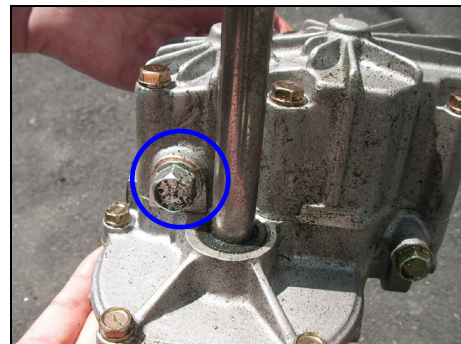
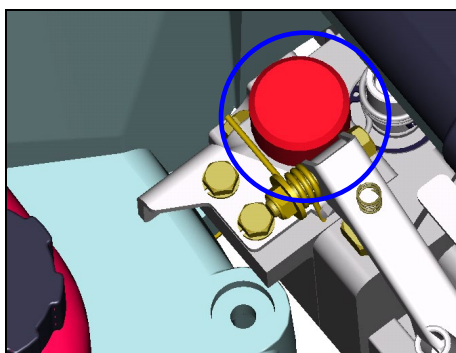
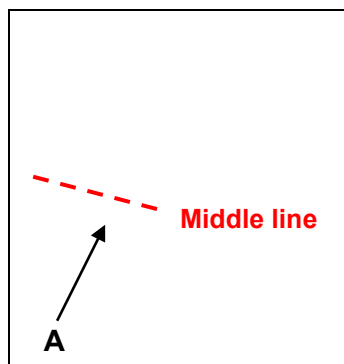

Fig. 21
Fig. 22
Fig. 23
3. Secondly, replace the HST oil. Drain the bolt(fig. 21) and set the drain plug completely. Loose the Red plastic cap(fig. 22), pour the HST oil "VG46" or "SAE 10W30" 0.22 liters, and then set the red cap completely. If HST oil is lower than middle line(fig. 23), add HST oil up to middle line.
Before to loose the red cap, clean around the cap and be careful for interfusion of dust(fig. 22 & 23). Perform oil exchange, at a place without dust.